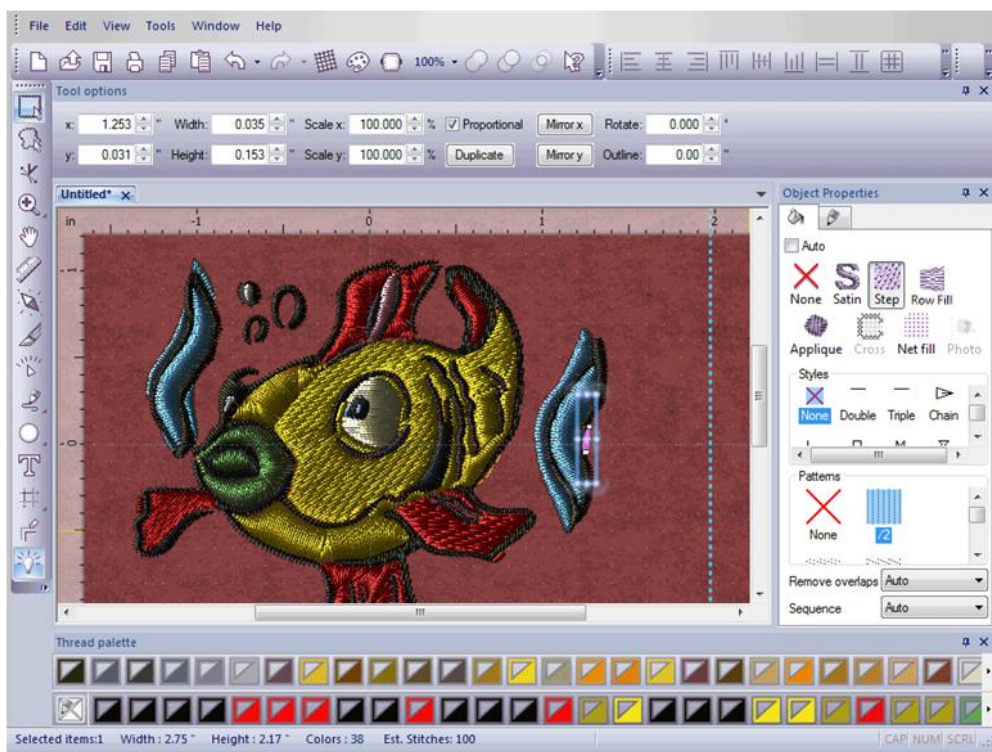

Figure 2.17: The traced image converted to stitches
31. The design will appear in the working area filled with stitches (Figure 2.17).